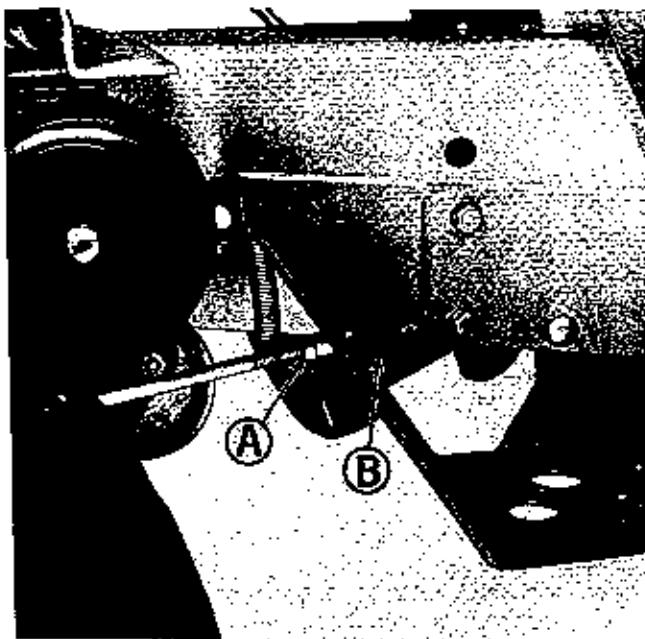

Figure 13. Parking brake adjustment on right side of tractor.
1. See figure 13. NOTE: ALL DIRECTIONS GIVEN FOR ADJUSTING THE PARKING BRAKE, ARE AS IF YOU ARE STANDING AT THE FRONT OF THE TRACTOR LOOKING BACK TOWARD THE PARKING BRAKE. Loosen nut (A) by turning it clockwise.
2. See figure 13. After insuring the tractor is either on a level surface or the wheels are blocked so it will not roll, pull forward on the parking brake handle (B) to disengage the parking brake.
3. Rotate parking handle (B) clockwise to tighten the parking brake, or counter-clockwise to loosen it. Turn the brake one complete revolution when making any adjustment. After turning the handle (B) one revolution place it in the engaged position to check it for correct adjustment. The correct engaged position is as shown in figure 13, with the handle at approximately in the 11 o'clock position as you